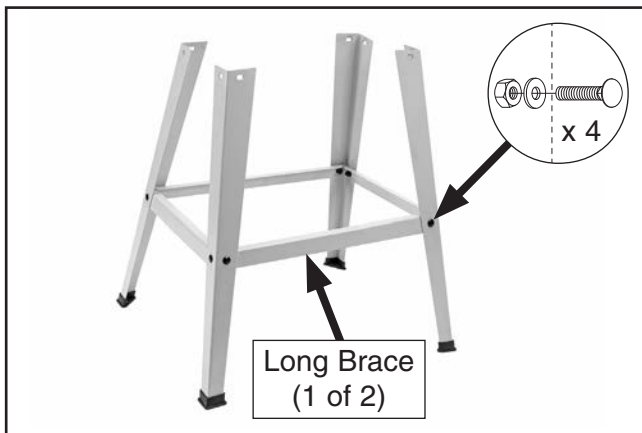

Figure 13. Leg assemblies attached with long braces.
- Repeat **Step 2** with remaining (1) short brace and (2) stand legs.
- Attach (2) leg assemblies together with (2) long braces using (4) M8-1.25 x 16 carriage bolts, 8mm flat washers, and M8-1.25 hex nuts, as shown in **Figure 13**. Only finger tighten for now.